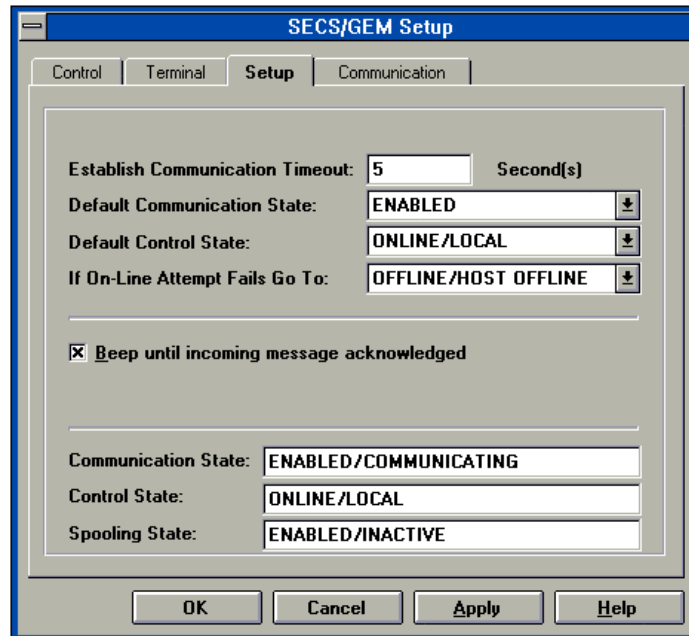

Figure 5 -3
4. Click on the Communication Tab and refer to Figure 5 -4.